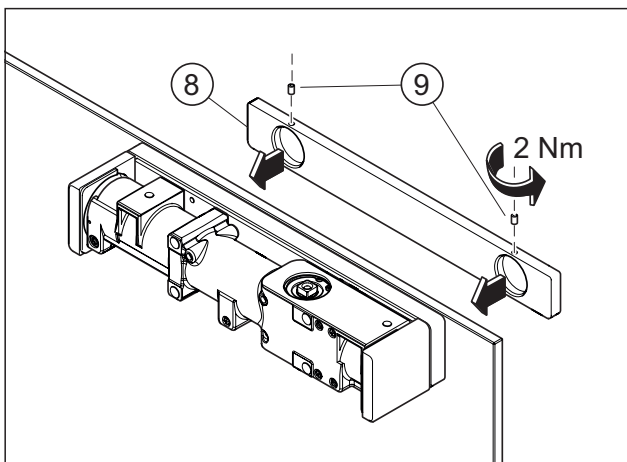

Fig. 11 Mount the counter-plate
- Attach the counter-plate to the system fixers and fasten with the grub screws (Fig. 11).